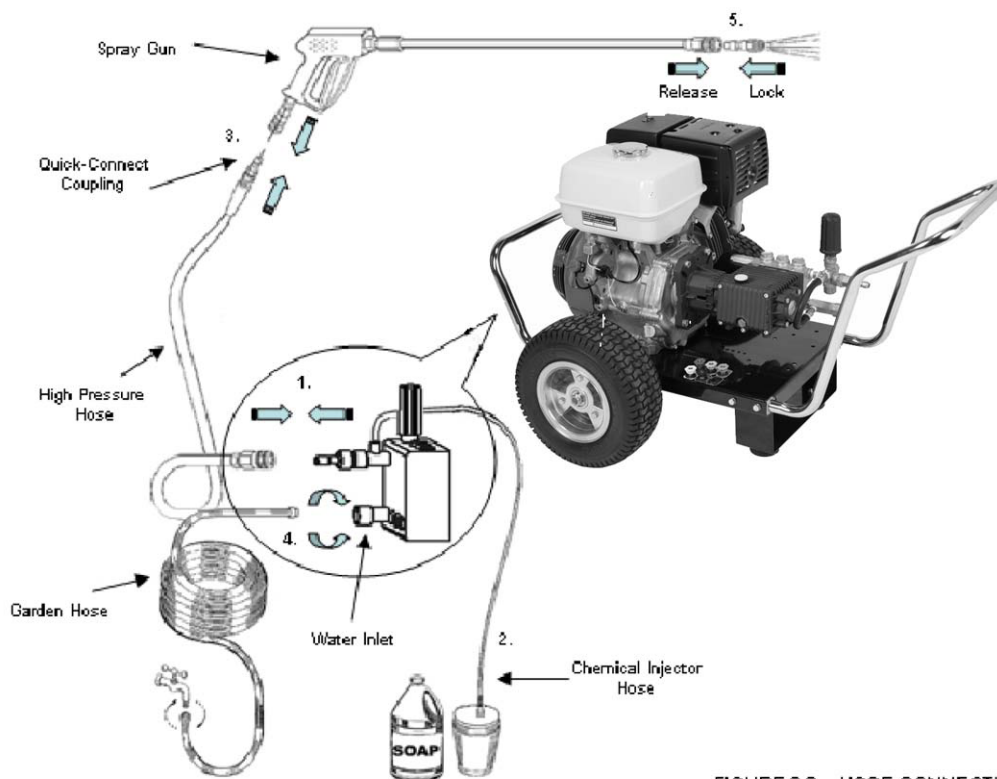

FIGURE 2.2 - HOSE CONNECTIONS
3. Connect cleaning nozzle, chemical injector control nozzle, or accessory nozzle or attachment to gunvalve extension quick coupler (Fig. 2.2).